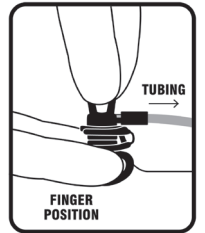

Figure 5
1. **Position forefinger and middle finger onto Pro-Lock's base from side opposite of extension tubing.** With available hand, firmly grasp wings between thumb and forefinger (Fig.5).
15. Stabilize port by placing two fingers on the base of the Pro-Lock™ CT Safety Infusion Set (from side opposite of extension tubing (Fig. 5)).